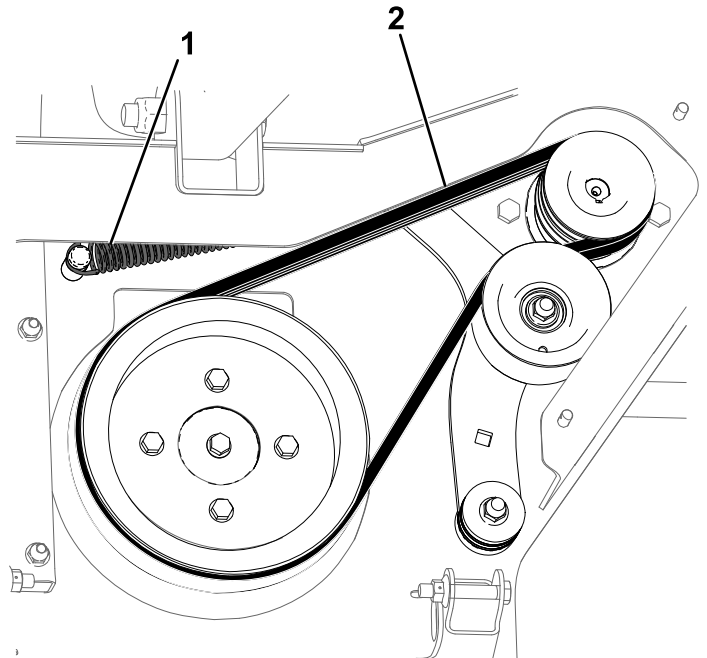

Figure 34
- Hairpin cotter (4)
- Remove the belt from the pulleys (Figure 34).
- Wrap the new belt around the small pulley (Figure 34).
- Rotate the large pulley by hand and wrap the belt around it as it rotates (Figure 34).